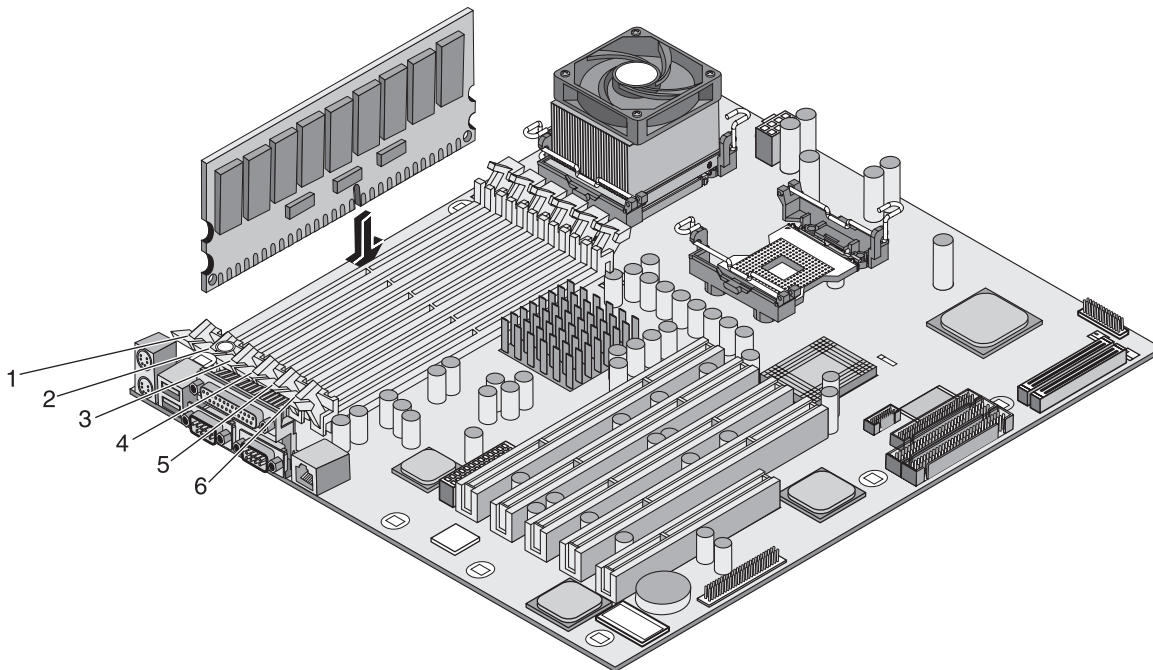

Figure 2-13: DIMM insertion
8. Hold the DIMM at 90 degrees to the system board and press the DIMM firmly and evenly into the slot until the retaining latches close. Refer to Figure 2-13.